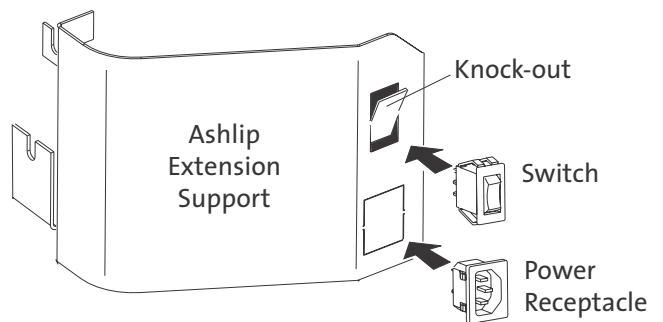

Figure 15. Remove knock-outs and install inserts.
6. Insert the Control Switch and Power Receptacle: Use a flat head screwdriver and pliers to pry the knockouts from the appropriate ash lip support. Work from the inside, to avoid marring the outside surface. Insert the Power Switch in the upper hole, and the Power Cord Receptacle into the lower hole. See fig. 15.
When first starting or reviving the fire, the control lever should be set at the far right position to allow the maximum amount of air into the stove. See fig.15. After the fire is well-established, the lever should be set at position to moderate incoming air to maintain the desired long term heat output and/or burn time.